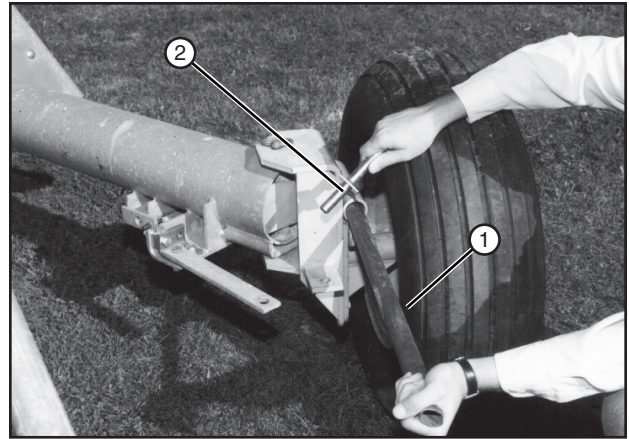

Figure 61-1 1. Bar
11. Remove hardware securing wheel in the tow position. See figure 61-1.
12. Insert a bar in the swivel tube and turn the wheel to the pivot swivel position. See figure 61-1.